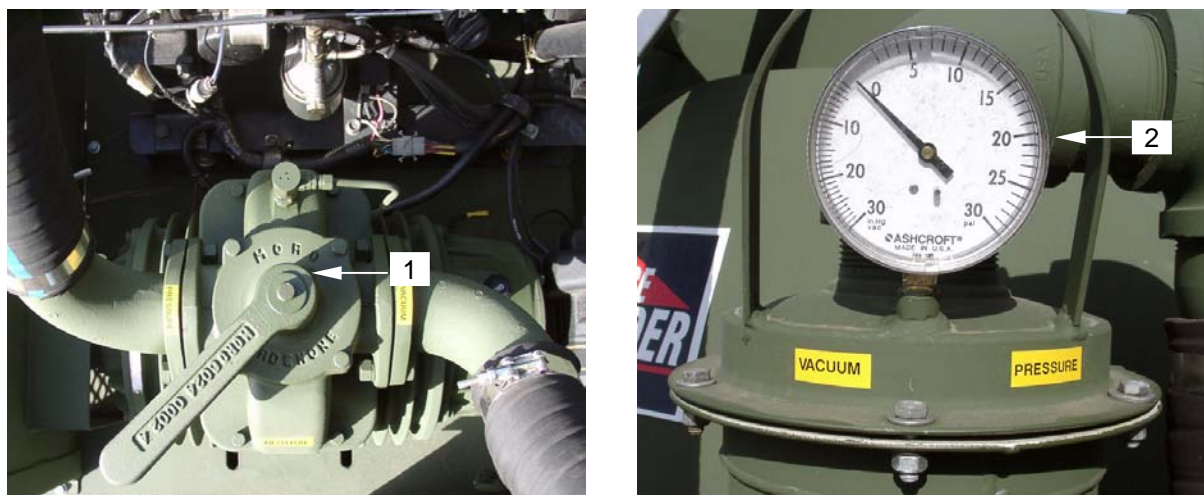

Figure 20. Vacuum Pump Control and Pressure Gage
12. Place vacuum pump control handle (figure 20, item 1) in vacuum position.
13. Let vacuum build up to 15-inch/vac as indicated on the pressure/vacuum gage (**figure 20, item 2**).